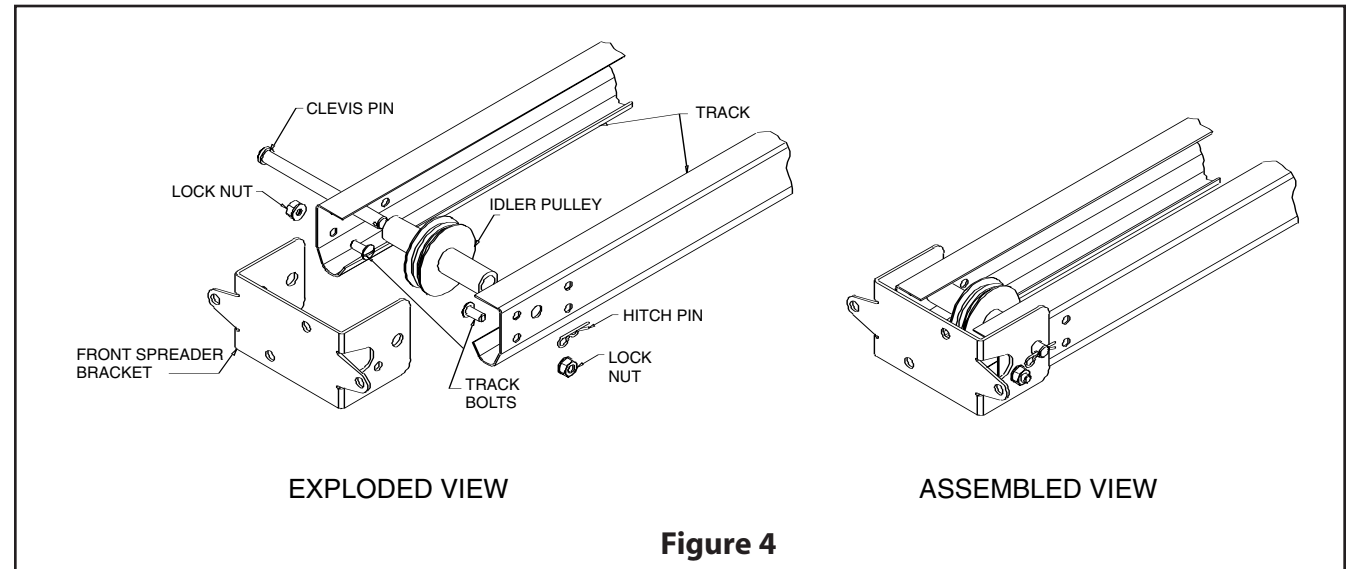

Figure 4
- 4) Attach the front spreader bracket to the front of the operator tracks with two (2) track bolts and two (2) locknuts (check hole alignment before installing).
- 5) Position the idler pulley inside the track and insert the 3/8" x 4-1/2" clevis pin. Secure the clevis pin using the hitch pin. **Fig. 4**.